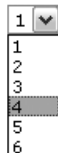

Figure 6-13 — Output selection drop box
1. To select an individual output to mute or unmute, click the Output drop box. A drop down scroll box appears (figure 6-13).